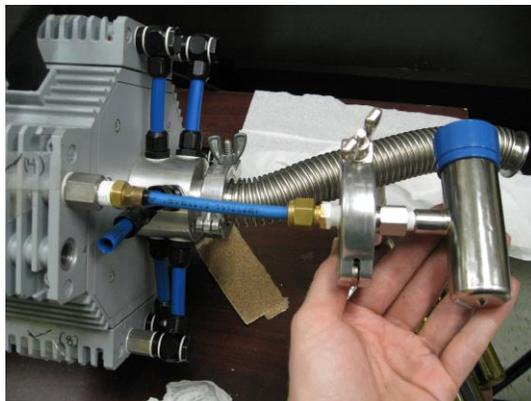

Figure 6: Convectron gauge attached to NPT adapter and connected to inlet.
- (q.) Connect the convectron gauge to the inlet connection (marked IN) of the housing cover (see Figure 6). DO NOT over-tighten the connection as this will damage the brass NPT threads.